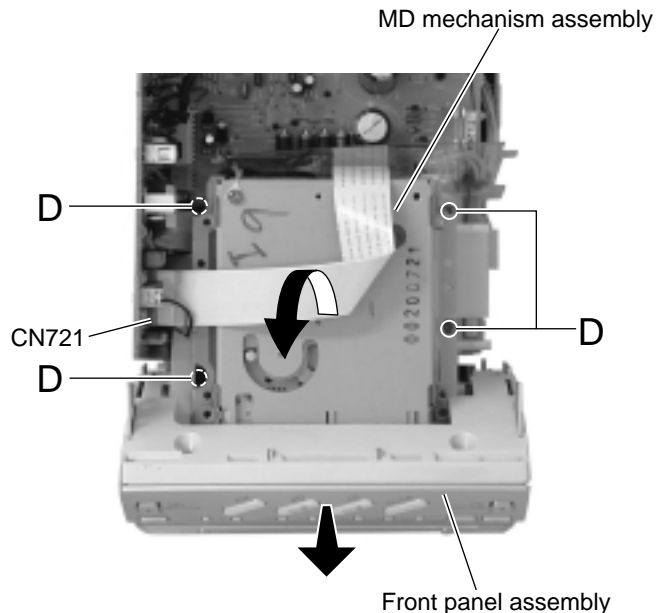

Fig.7
■ **Removing the MD mechanism assembly unit (See Fig.7)**